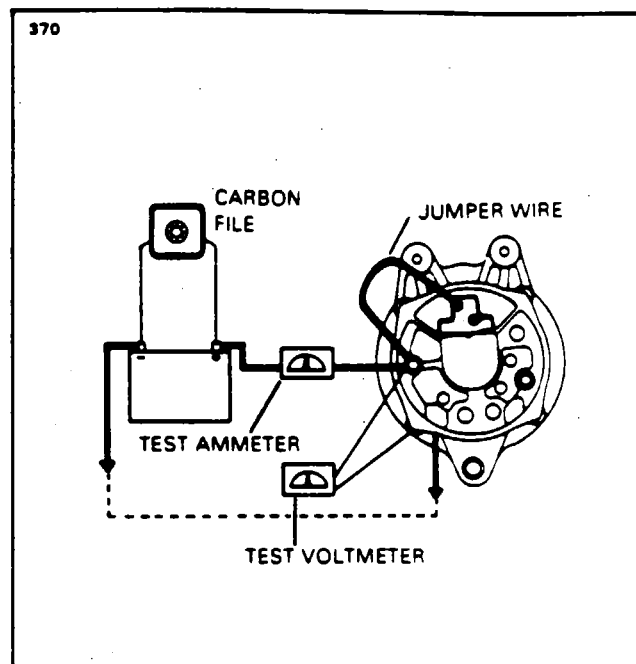

Figure 24-13. Testing Alternator
1. Wiring connections for bench testing the alternator are shown in Figure 24-13. Refer to the individual specification Chart 2403 for output test figures. Adjust the carbon pile if necessary, to obtain the specified voltage.